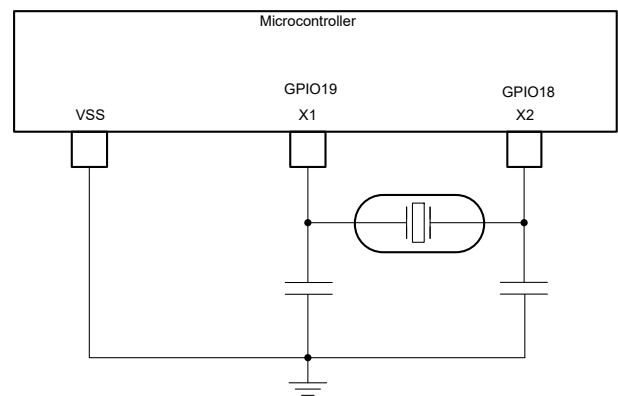

Figure 6-12. External Crystal
- An external crystal. The crystal should be connected across X1 and X2 with its load capacitors connected to VSS as shown in Figure 6-12.